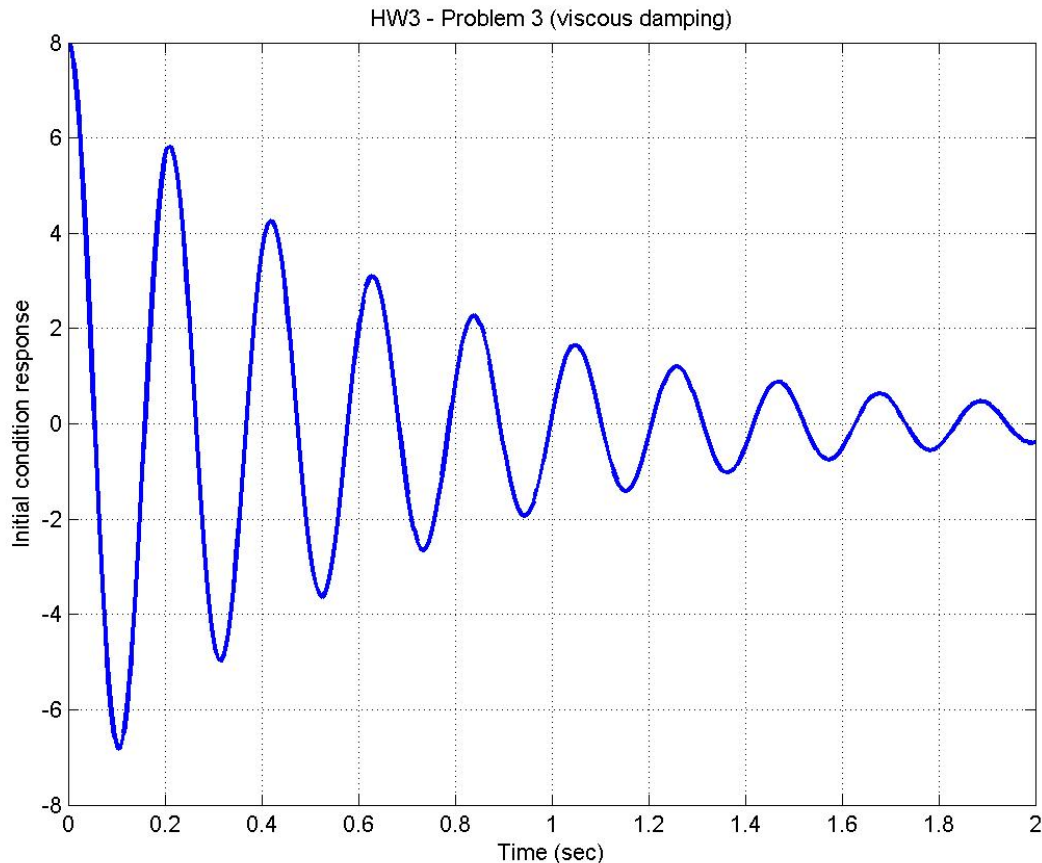

Figure 3.3a – Step response for a system with viscous damping.
a) Figure 3.3a shows the step response of a spring-mass system where $m=1\text{kg}$ and $k=900\text{ N/m}$. The EOM is: $m\ddot{x} + b\dot{x} + kx = 0$, where losses are due to linear, viscous damping.
ii) Using MATLAB, produce a plot of the approximate exponential decay envelope bounding the response in Figure 3.3a. For this system, what are: the time constant of the decay envelope, ω_n , and ζ ?